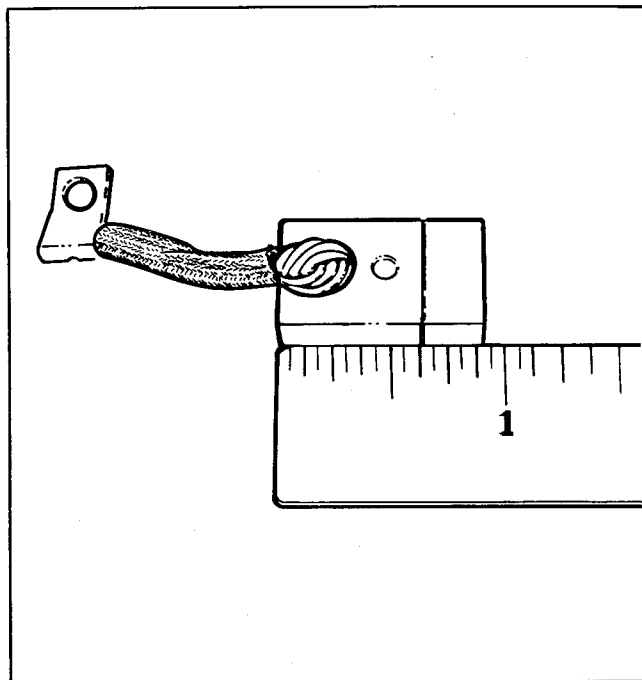

Figure 94 – Measuring Brush Length
- b. Check brush length, Figure 94. If any brush is worn to its minimum length when measured at its shortest point, new brushes are needed. Replace brushes in sets of four only.